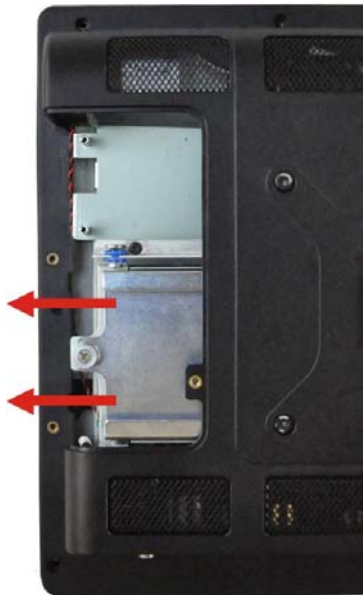

Figure 4-3: Removing the HDD Bracket
Step 4: Slide the HDD bracket out of the device as shown (**Figure 4-3**).